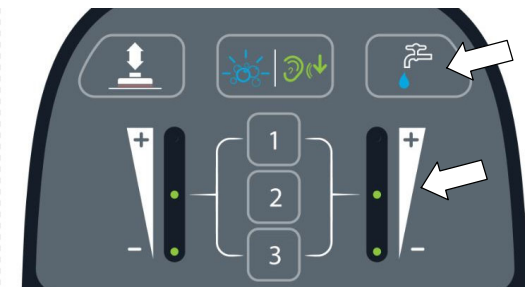

FIG. 41
3. Press the solution flow button to increase or decrease the solution flow rate (Figure 41). The solution flow indicator will display flow setting. No LED = No flow, One LED = Low flow, two LED's = Medium flow, three LED's = High flow.